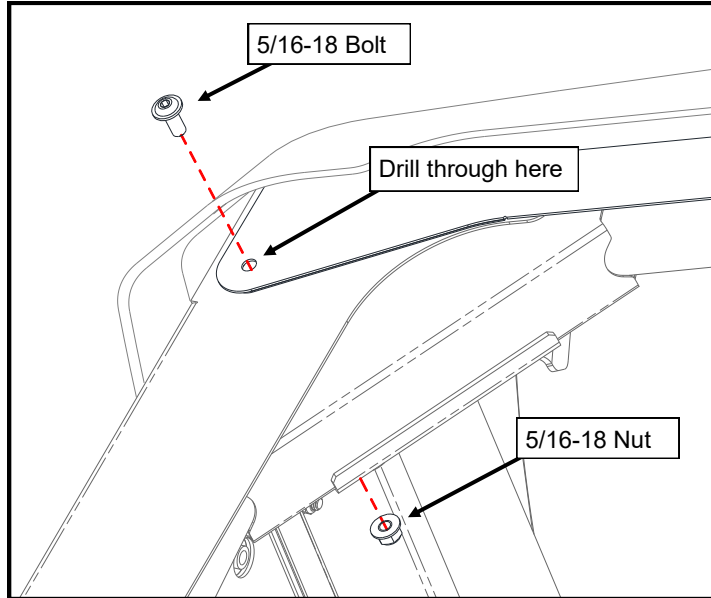

Figure 17.1: Front Side Headers
17.1 Press the front of the header against the top and side of the windshield frame and drill a 11/32" hole through the windshield, using the hole in the header as a guide. (see Figure 17.1).